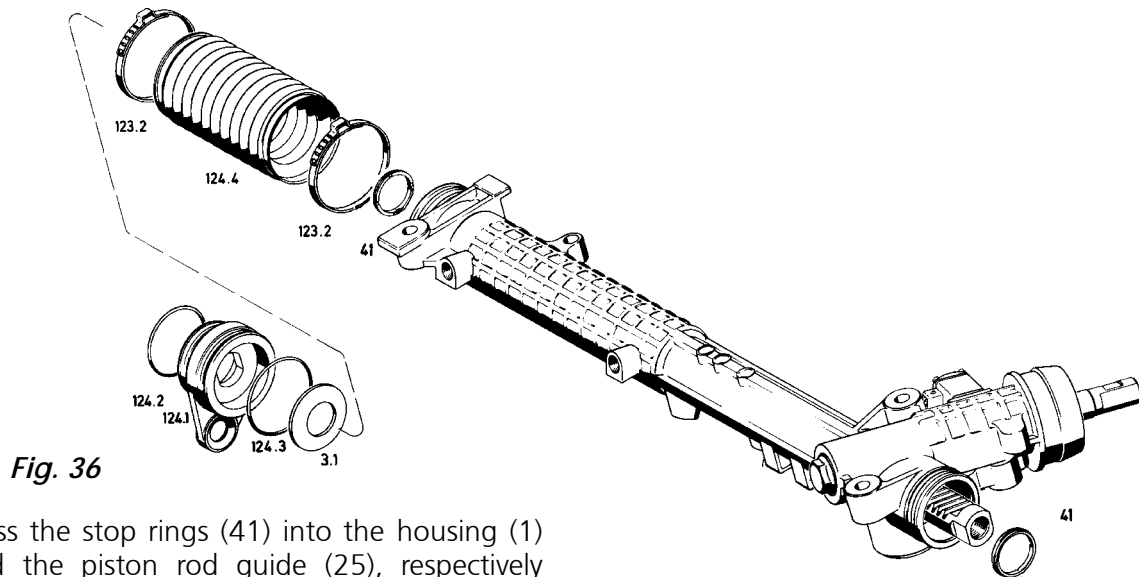

Fig. 36
Press the stop rings (41) into the housing (1) and the piston rod guide (25), respectively (**Fig. 36**).